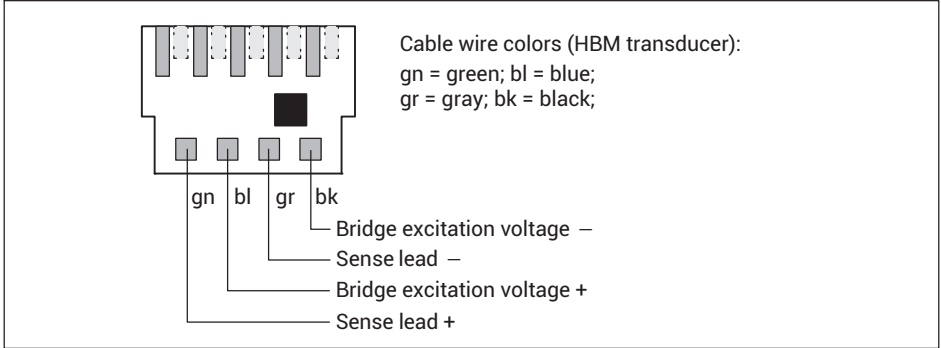
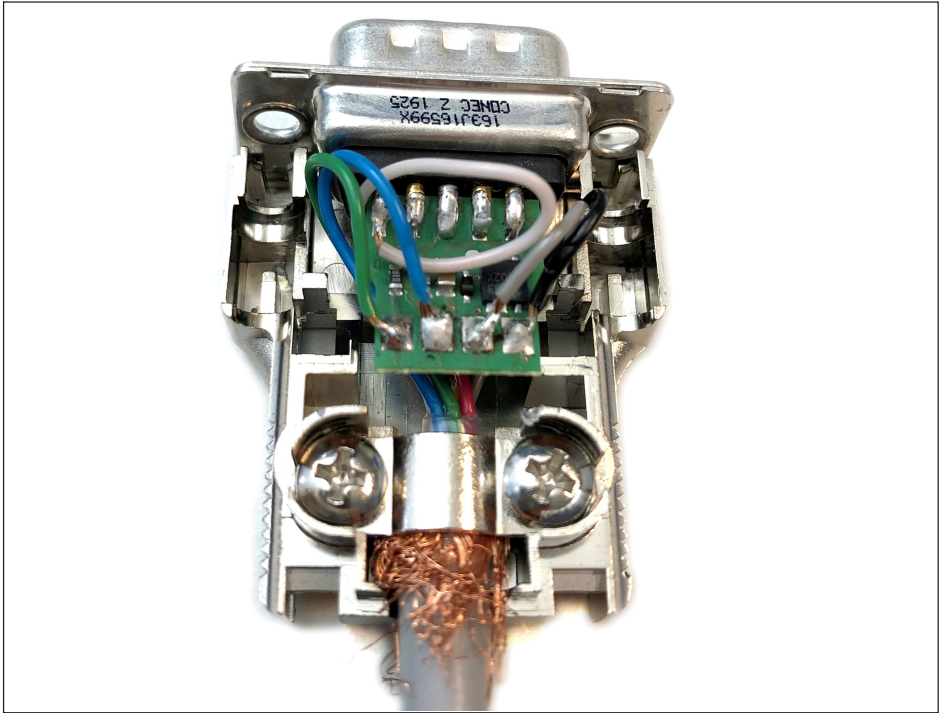

Fig. 2.7 View of the TEDS module in the plug from above with pin assignment (schematic)
Fig. 2.8 View of the fully soldered plug
- ▶ Solder the supply voltage and sense leads to the four solder tabs (Fig. 2.7 and Fig. 2.8).
- ▶ Fix the cable with the cable clamp as shown in Fig. 2.8, and assemble the plug fully.